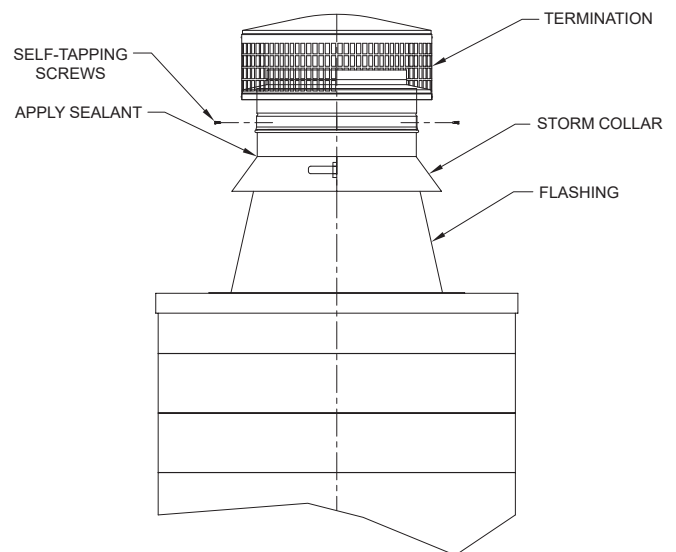

FIG. 11
Attach the storm collar around the chimney above the screen of the flashing. Secure in place with the locking tab and button. Seal around the storm collar with a non-hardening waterproof sealant. Attach the Termination Cap to the chimney by sliding the male to female joint connection together and secure in place with (4) sheet metal screws provided. See **FIG. 11**.